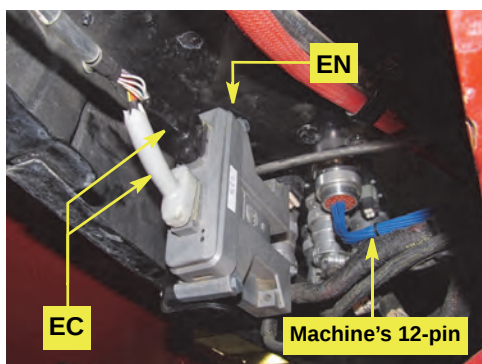
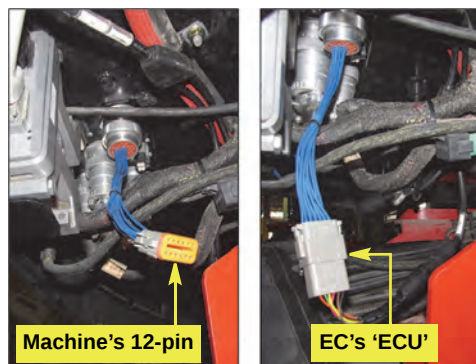

Figure 3d: Steering controller's main cable connected
Figure 3e: Machine's harness (L) to steering controller's cable 'ECU' (R)
- d. Under the cab, connect steering controller cable **EC**'s two 12-pin connectors (black and gray) to their respective sockets on steering controller **EN** (Figure 3d).
- e. From the cable connections cluster, locate the machine's 12-pin connector (the external continuation of the 12-pin cabling in step 3b—Figures 3d and 3e left image). Connect it to **EC**'s branch cable labeled 'ECU' (Figure 3e right image).